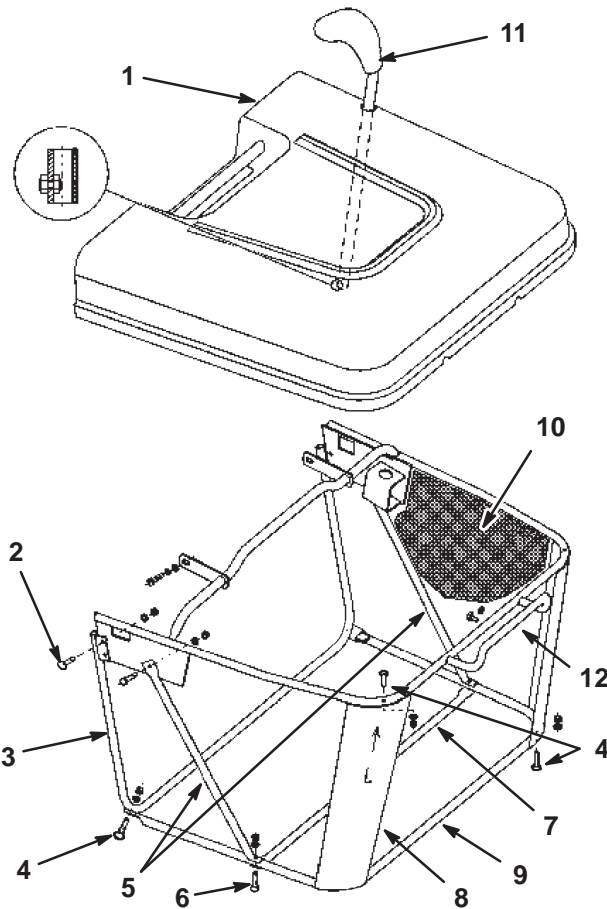

Figure 4
1. Tilt the front tube of the partially assembled collector. Align the upper holes with the holes on the upper tube. Loosely fasten the tubes together with the upper bolts (Fig. 4).
2. Place the collector on the rear tractor supports (refer to the Operator's Manual, Installing the Grass Collector) and align the collector frame with the tractor fenders. Tighten the upper bolts (Fig. 4).
3. Stretch the bag and put it over the rear handle (Fig. 4).
4. Insert the bottom tube into the bag (Fig. 4).
5. Insert the corner supports under the top tube. Fasten the corner supports to the top and bottom tubes using the M5 bolts and nuts from under the collector cover (Fig. 4).
6. Fasten the bottom tube to the front tube with M5 bolts and nuts (Fig. 4).
7. Tilt the left and right supports rearward. Place the lower brace on the outside of the bag and secure it to the left and right supports with the screws (Fig. 4).
11. Insert the dumping lever through the hole of the cover and secure it with the M5 x 12 screw and M5 nut (inside the tube) (Fig. 4).